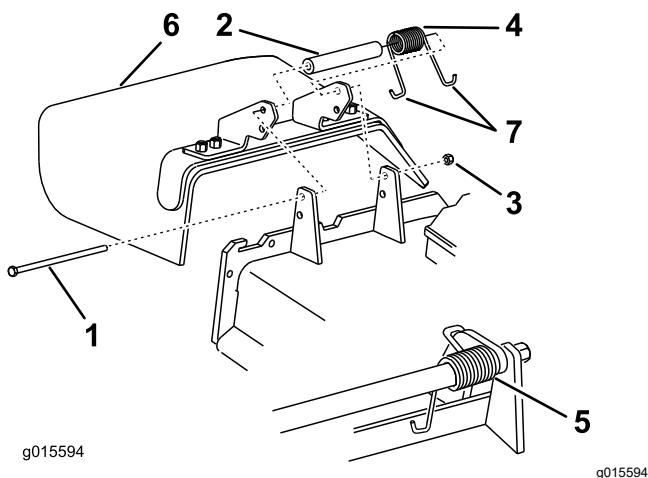

Figure 87
1. Remove the locknut, bolt, spring, and spacer holding the deflector to the pivot brackets (Figure 87).
**Note:** Make sure that 1 J-hook end of spring is installed behind deck edge before installing the bolt as shown in Figure 87.
6. Place 1 J-hook end of the spring around the grass deflector (Figure 87).